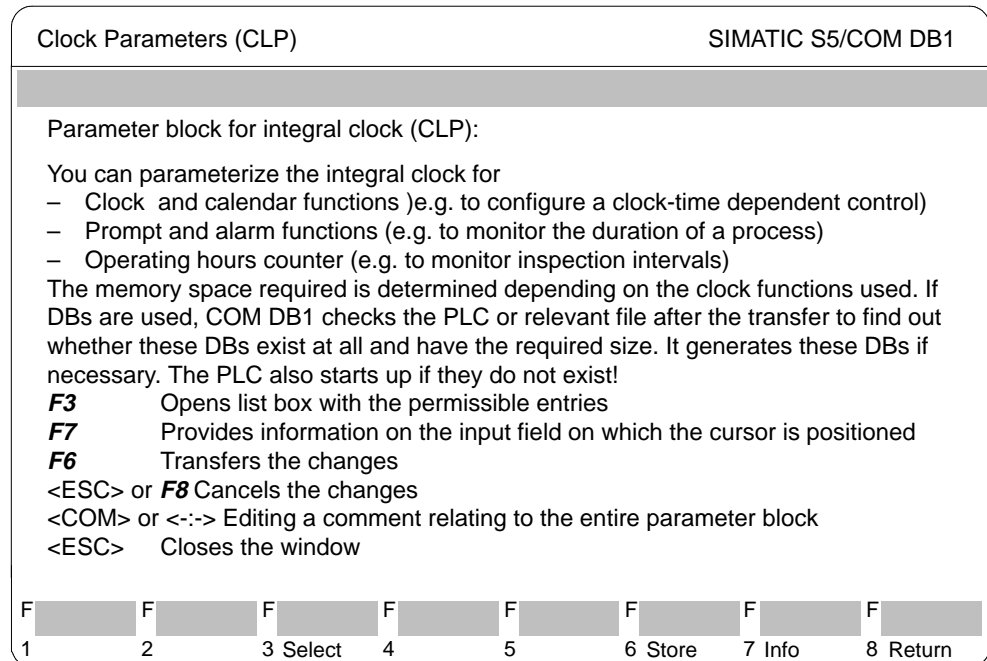

Figure 22-4 Help Display: Explanations of the Current COM DB1 “Clock Parameters” Dialog and Function Key Assignments
**Message line** 1 COM DB1 informs you about the following in the message line of the COM DB1 dialogs (see Figure 22-4):